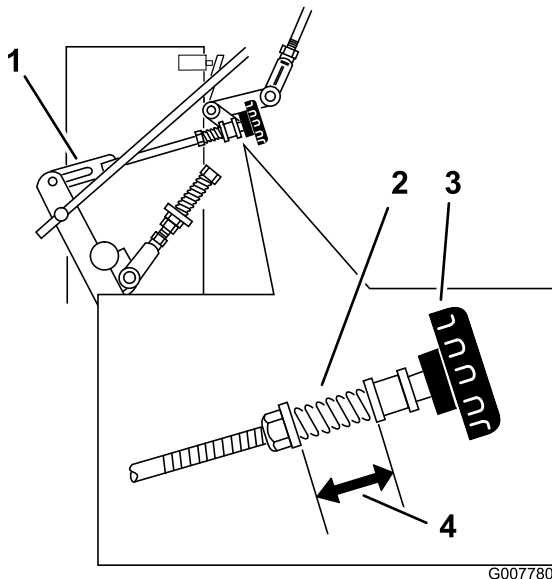

Figure 36
3. Adjust the right side linkage by turning the quick track knob counterclockwise until the tyre begins to rotate forward (Figure 36).
4. Turn the knob clockwise 1/4 of a turn at a time. Then move the speed control forward and back to neutral. Repeat this until right wheel stops rotating forward (Figure 36).
6. The spring that keeps tension on the knob should normally not need adjustment. However if an adjustment is needed, adjust the length of spring to 1 inch (26 mm) between the washers (Figure 36).
7. Adjust spring length by turning nut at front of spring (Figure 36).